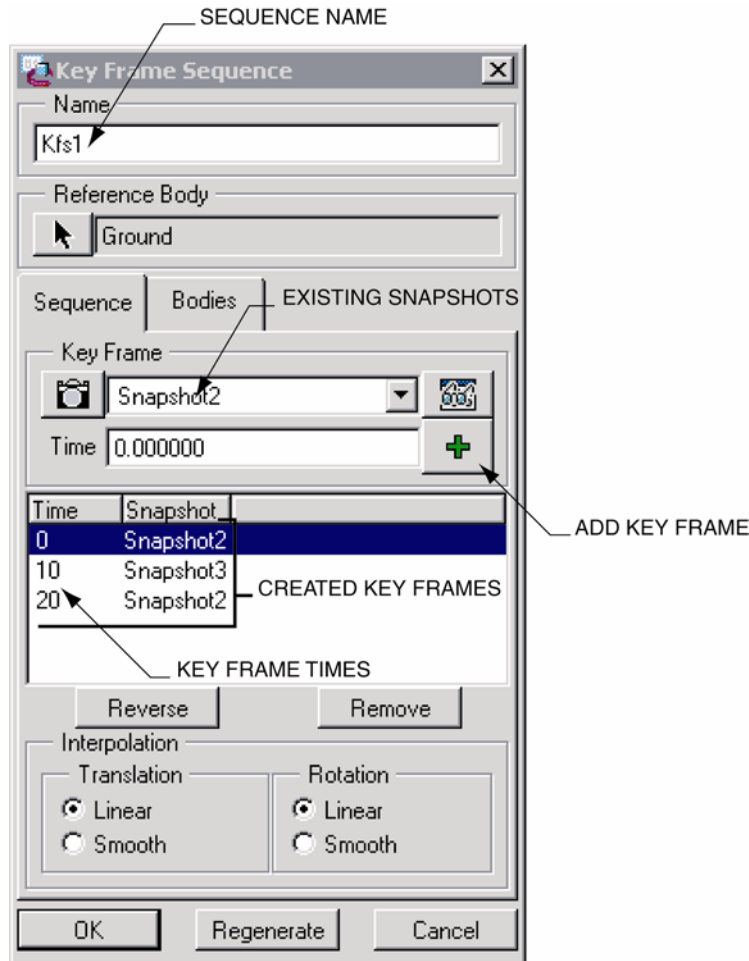

Figure 12-112: Key Frame Sequence Dialog Box
Step 7:  On the dialog box, use the **ADD KEY FRAME** icon to create the three key frames shown on the **Key Frame Sequence** dialog box (Figure 12-112).
Step 8: Select OK when your **Key Frame Sequence** dialog box matches Figure 12-112.